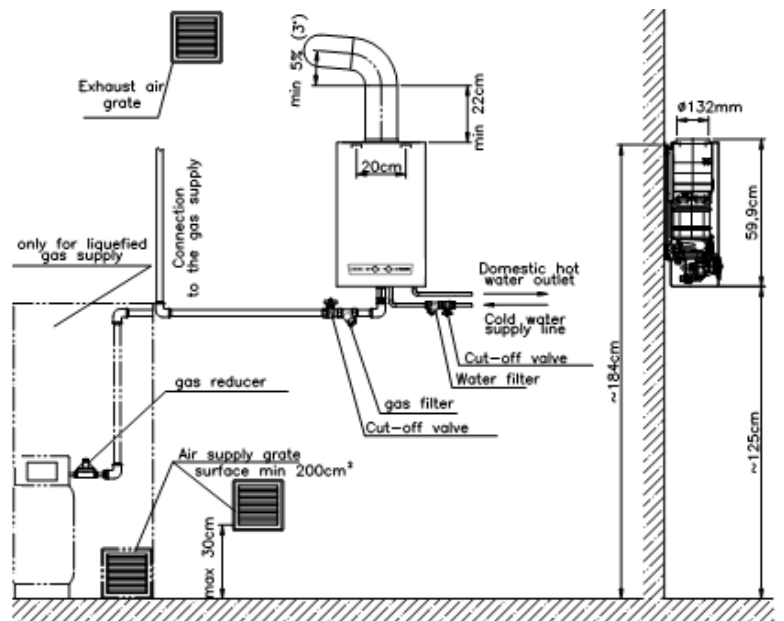

Fig. 3.1.3.1 Diagram of water, gas and flue – gas conducting systems
After all installation works are completed, it is necessary to check up if all gas and water connection are tight. Diagram of the water, gas and flue – gas discharge system is presented on the Fig. 3.1.3.1
Water heater should be installed as close as possible to the individual chimney duct and in a place not exposed to frost. The cross-sections of the pipe as well as the flue duct should remain the same along the entire length. The flue duct should leave the appliance vertically (min. 220mm) to the first elbow. The horizontal section of the flue duct at the lift of 5% (ca. 3°), should not exceed the length of 2m (Fig. 3.1.3.1) The length of the flue duct, measured from the axis of the flue duct inlet to the edge of the duct outlet above the roof should not be less than 2m. The internal surface of the flue-gas duct should be corrosion-resistant.
- Water heater connection to the flue gas duct must be agreed with the proper chimney sweep company and should meet the requirements presented on Fig. 3.1.3.1.